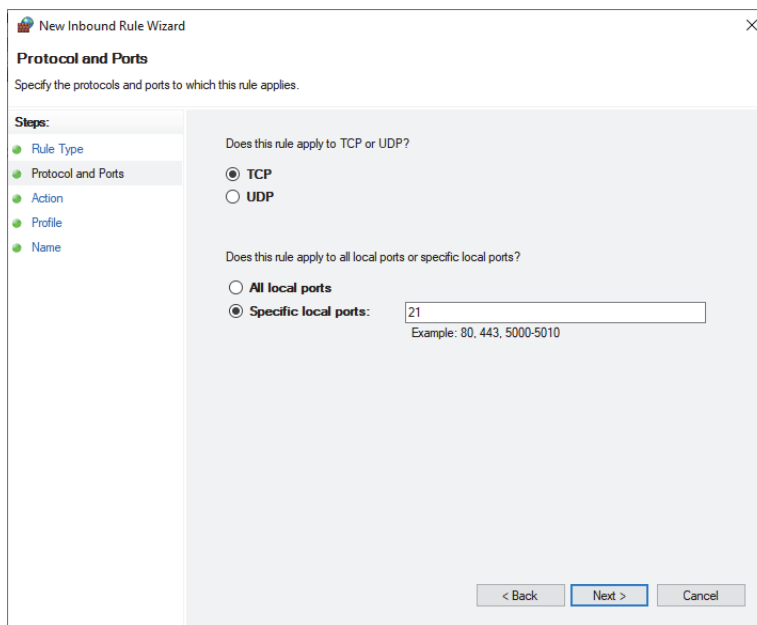

Figure 1-12 New Inbound Rule Wizard dialog box — Protocol and Ports
5. In the **New Inbound Rule Wizard** dialog box, select the protocols and ports to which the rule applies (Figure 1-12 on page 33).